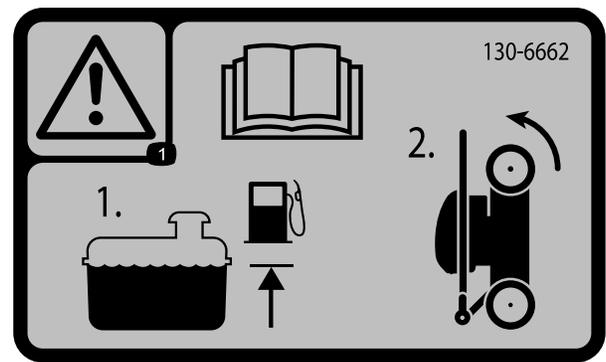

Figure 18
1. Ensure that the level of gasoline in the fuel tank is no higher than what is recommended by the engine manufacturer; refer to the engine manufacturer's decal on the engine (Figure 18).